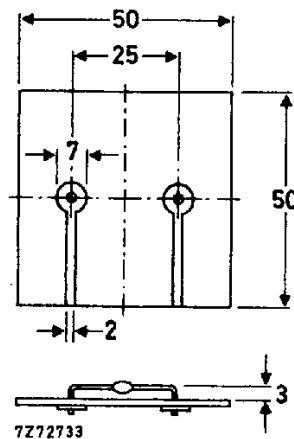

Fig. 2 Mounted on a printed-circuit board.
| Average forward current (averaged over any 20 ms period) $T_{tp} = 45\text{ }^\circ\text{C}$; lead length 10 mm $T_{amb} = 60\text{ }^\circ\text{C}$; see Fig. 2 | $I_{F(AV)}$ | max. | 2 A max. 1 A |
2. Thermal resistance from junction to ambient; device mounted on a 1,5 mm thick epoxy-glass printed-circuit board; Cu-thickness $\geq 40\text{ }\mu\text{m}$; Fig. 2
- - - = ambient temperature and device mounted as shown in Fig. 2.